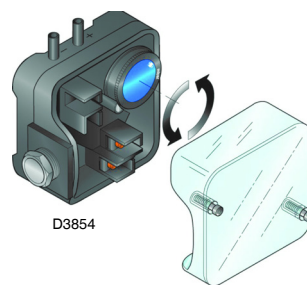

Fig. 25
- Adjust the air pressure switch (Fig. 25) to the start of the scale.